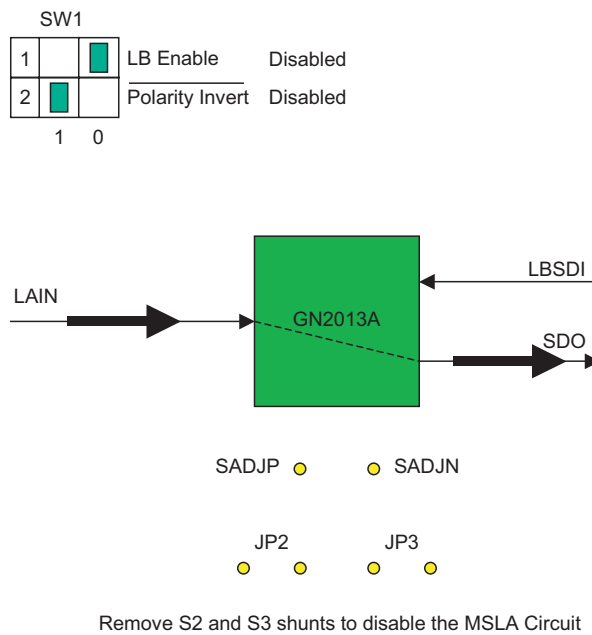

Figure 4-3: Configuration Example 3
1. Configure the evaluation board in accordance to the required mode (i.e., see Figure 4-1 on page 8, Figure 4-2 on page 9, Figure 4-3 on page 10 and Figure 4-4 on page 11). Other configurations are possible.
Configuration, illustrated in Figure 4-3, corresponds to: